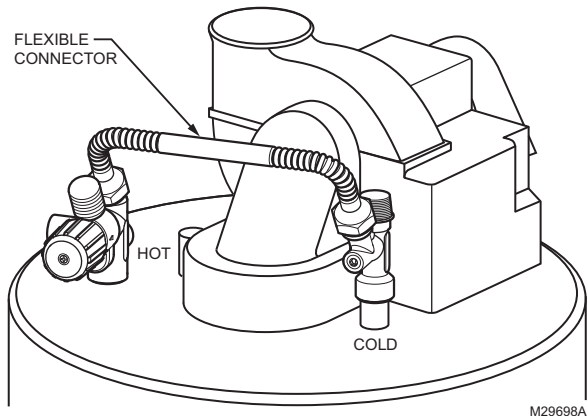

Fig. 7. Install flexible connector.
4. Install the flexible metal connector to the AMX300 mixing valve and cold water tee as shown in Fig. 7. Tighten flare connectors until leak tight. At this time the mixing valve kit should be leak tight.